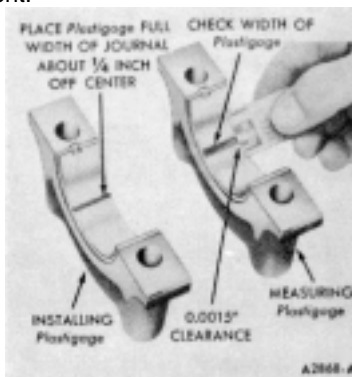

FIG. 27 Installing and Measuring Plastigage
3. Place a piece of Plastigage on bearing surface across full width of bearing cap and about 1/4 inch off center ( Figure 27).